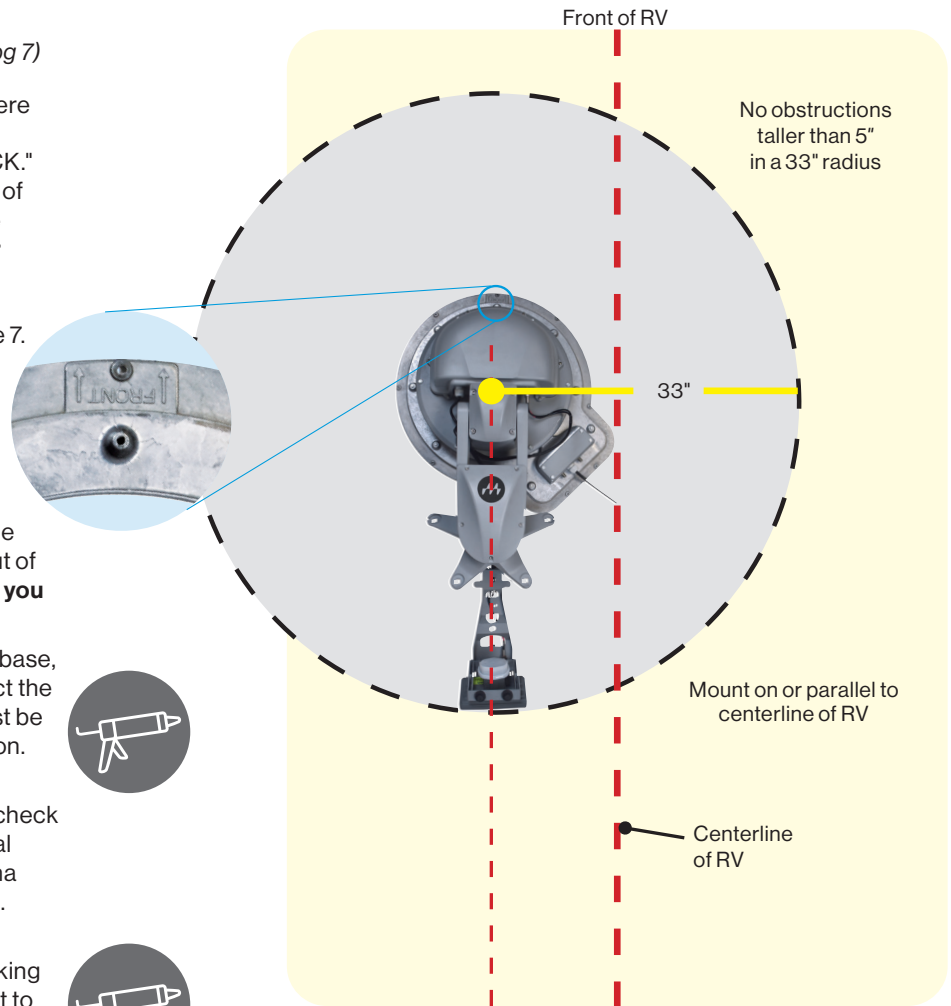

FIGURE 5. Antenna (without reflector) installed parallel to centerline of RV
- d. Lacks obstructions taller than 5" mounted within a 33" radius from the center of the Trav'ler Pro base. See page 4, figure 5.
1. Place the Trav'ler Pro antenna on the roof where you plan to install it. On the mount base, the transition plate is marked "FRONT" and "BACK." Rotate the Trav'ler Pro antenna until the front of the mount base faces the front of the RV. **The Trav'ler Pro antenna must be installed on or parallel to the centerline of the coach** (see figure 5). If you are upgrading from the original Trav'ler to the Trav'ler Pro, skip to page 7.